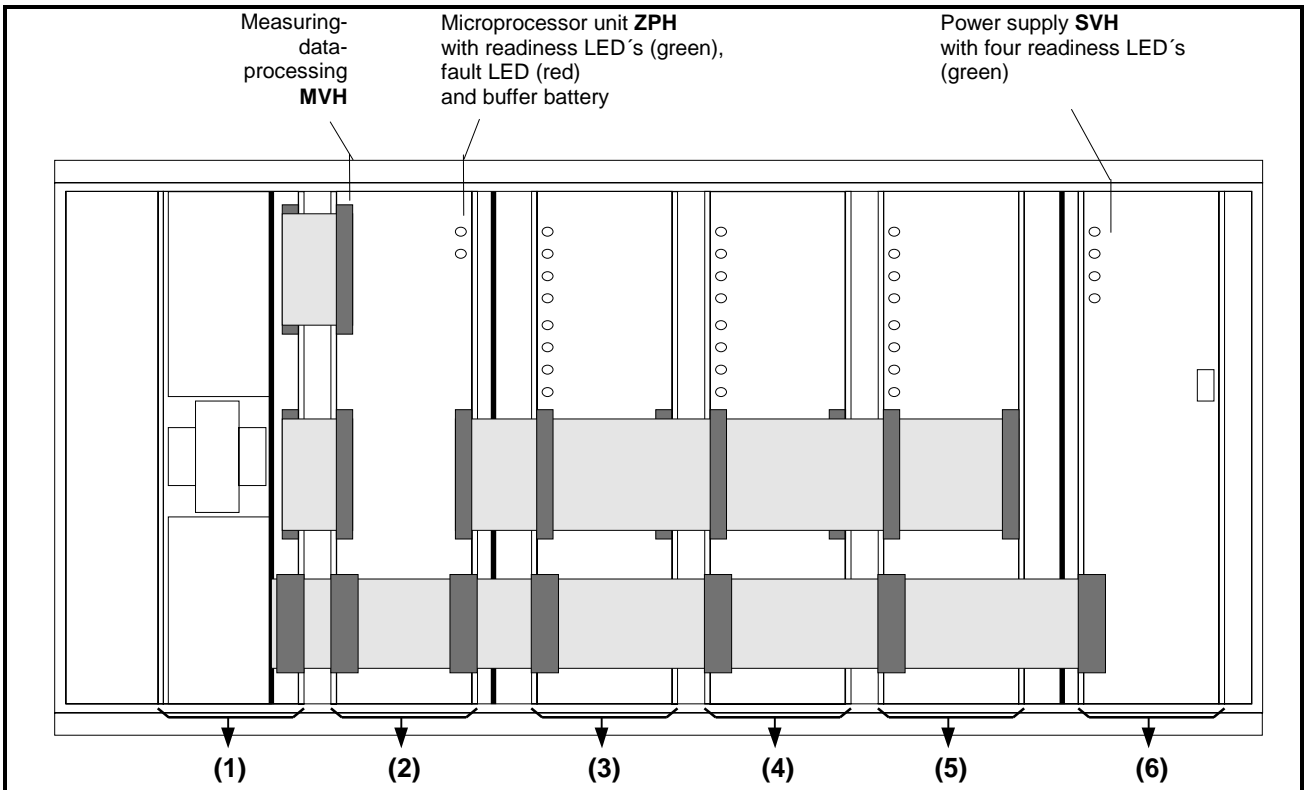

Figure 1: Front view of 7SA513 with open front door (simplified and reduced),
- 26.2 Remove the bus plug **-X11** from the power supply module **SVH** (see fig. 1).
- 26.3 Connect a digital-voltmeter to pin 2 (positive pole +5V) and pin 5 (negative pole -5V) of the plug connector X11 (SVH-module). Pin-location see fig. 1.
- 26.15 Replace the bus plug **-X11** to the plug connector X11 of the power supply module **SVH** (see fig. 1).